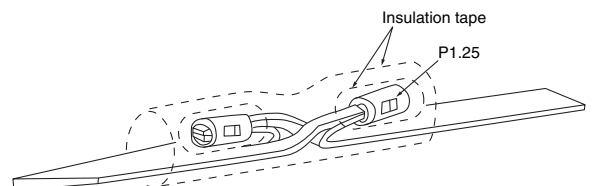

Figure 6
- (d) Wrap each connection with insulation tape, then bend the connected sections in opposite directions as shown in Figure 6. Wrap the whole section with insulation tape for protection (see Figure 6).